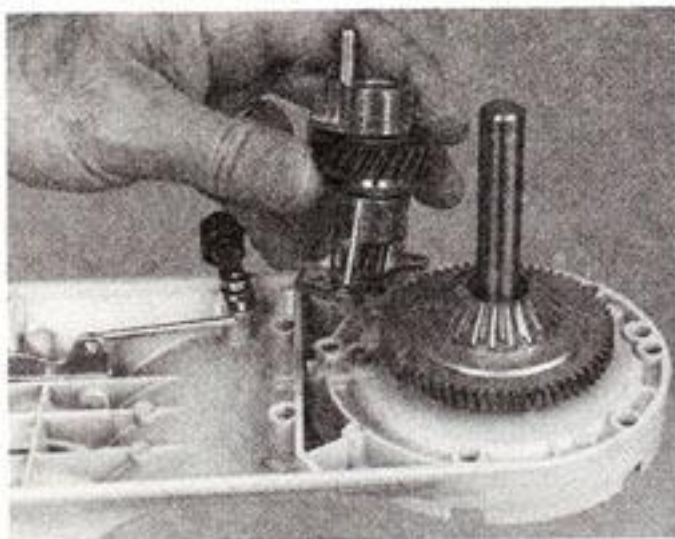
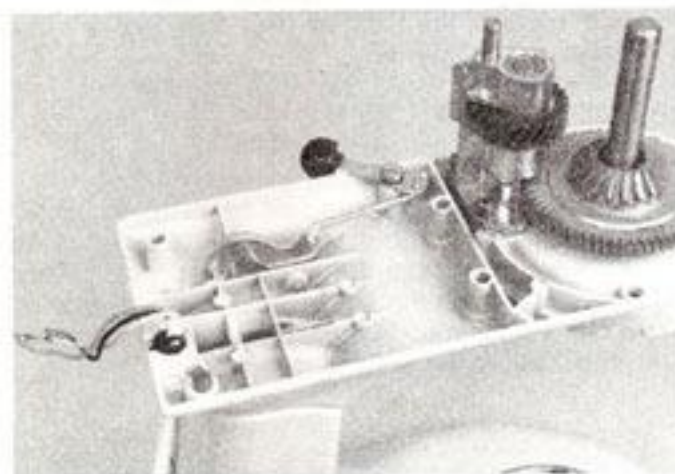

Fig. 59
Fig. 60
- J. Place the worm gear assembly and bearing bracket on the gear case bottom cover so that the two dowels will fit into the base of the bearing bracket (Fig. 59). Place the three screw and lock washer assemblies in the holes and screw them into the bottom cover (Fig. 60). Be sure these screws are tight.
- K. Check the latch, link and lever assembly. There should be no wear or trouble with this assembly (Fig. 60).